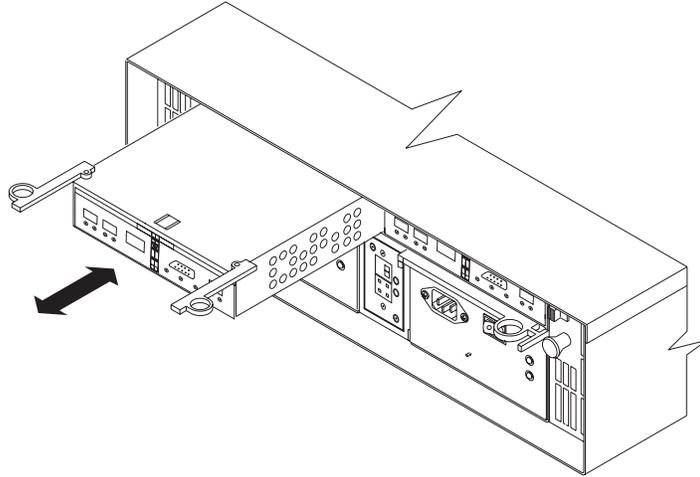

Figure 57. Pull-rings for removing a controller
- b. Grasp the pull-rings (see Figure 57 on page 71), then pull on the levers and remove the RAID controller.